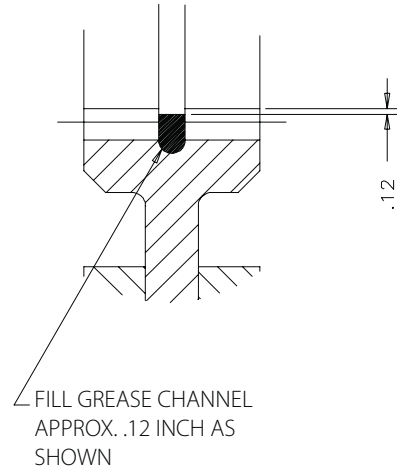

Figure 4
2.2.4 Apply a light coat of MOLUB-ALLOY® 412 ES grease to the gear teeth and pre fill the groove in the friction disc splines as shown on figure 4. Slide the brake assembly onto the gear.